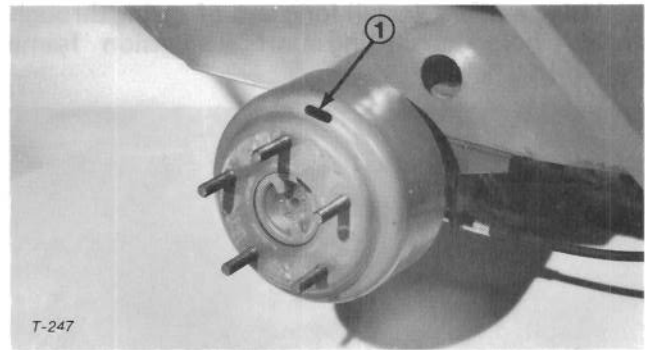
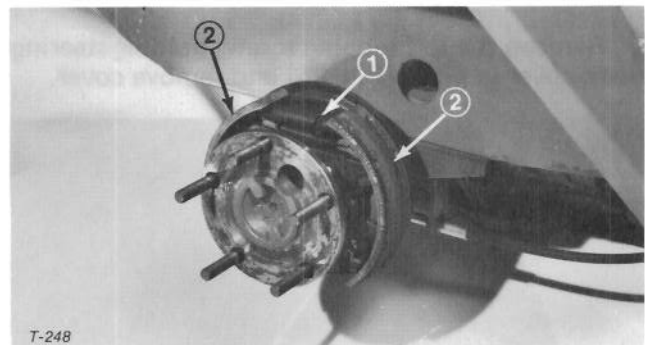

Figure 23
Figure 24
6. Remove wheel nuts and slide wheel and tire assembly off studs. Rotate brake drum until adjusting slot is at top and centered over star-nut that adjusts brake shoes (Fig. 23).
7. Using a brake adjusting tool or screwdriver rotate star-nut (Fig. 24) until brake drum (Fig. 23) locks because of outward pressure of brake shoes (Fig. 24).